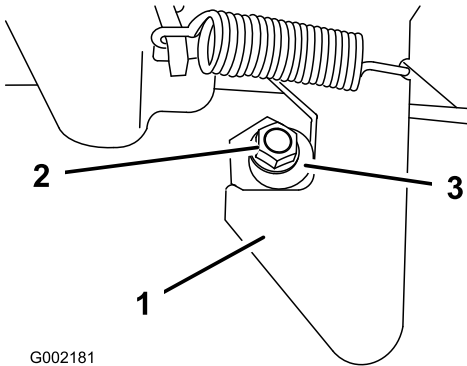

Figure 20
1. Loosen the nut on the end of the latch post (Figure 20).
2. Turn the latch post clockwise until it is snug against the latch and then tighten the nut (Figure 20).